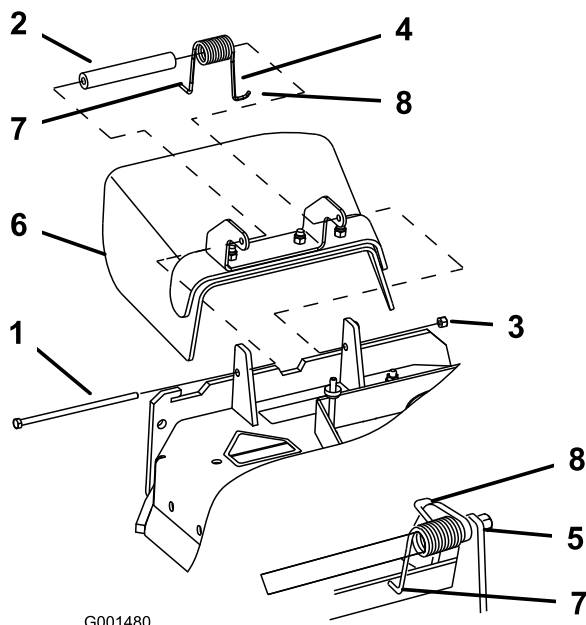

Figure 69
1. Remove the locknut, bolt, spring and spacer holding the deflector to the pivot brackets (Figure 69). Remove damaged or worn grass deflector.
Note: Make sure the **L** end of spring is installed behind deck edge before installing the bolt as shown in Figure 69.
- Install bolt and nut. Place the **J** hook end of spring around grass deflector (Figure 69).